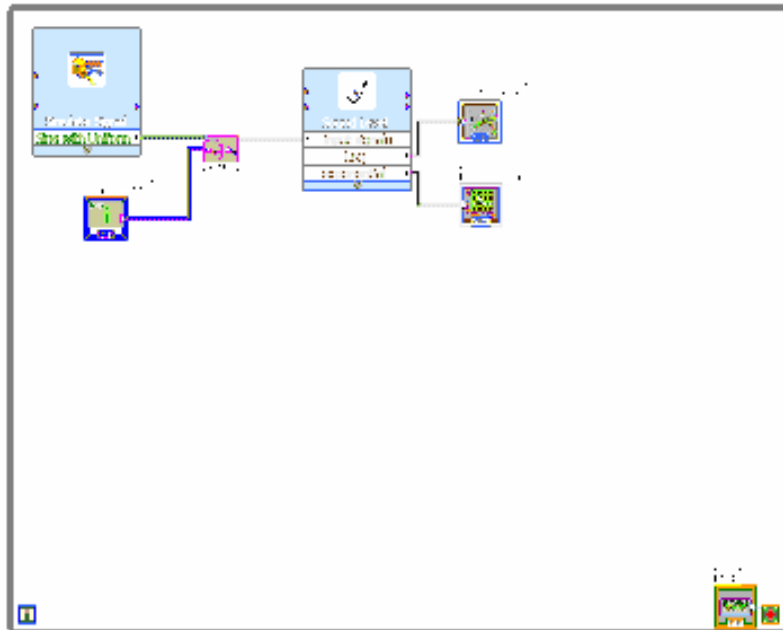

Figure 1-15. Block diagram connections
8. Now add a chart to display the exponentially averaged sound level. There is a shortcut to do this in the block diagram. Right-click on the **exponential** output of the Sound Level Express VI and select Create >> Indicator. Connect the indicators as in figure 1-15.